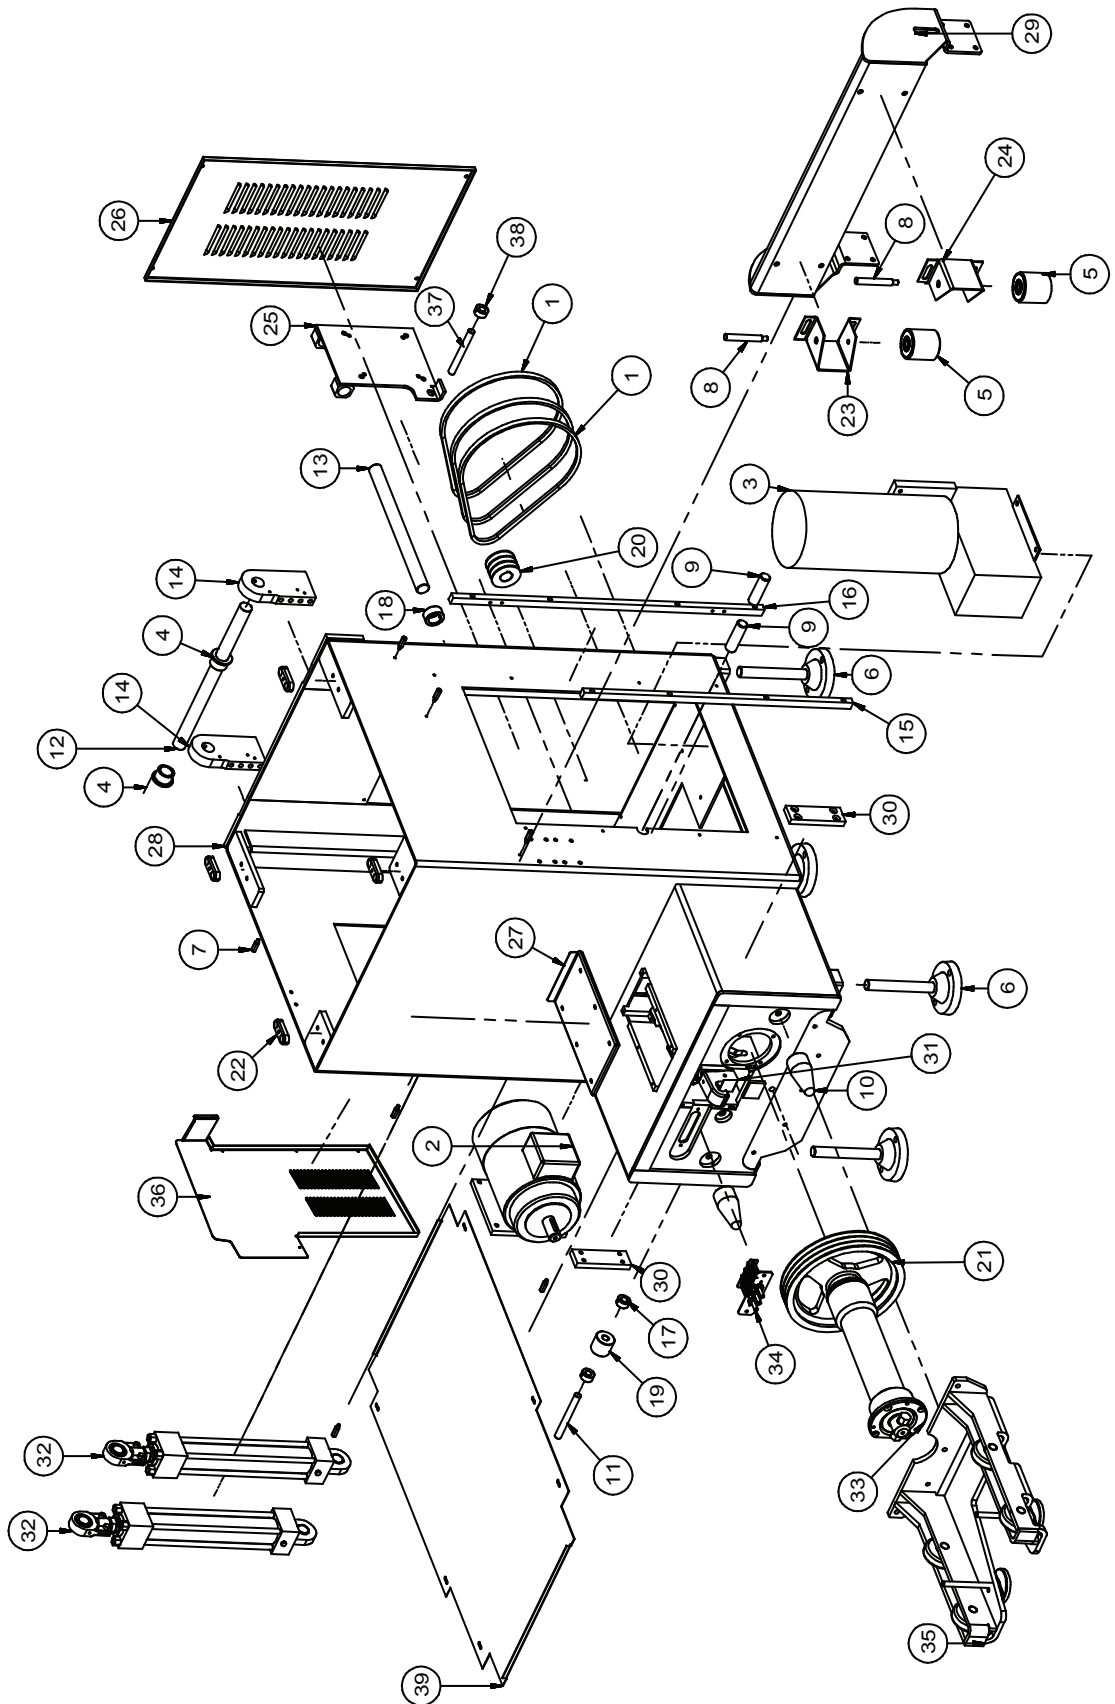

Fig. 14 Bowl drive
The belts (**ref. 1 Fig. 14** on page 49) must be replaced as soon as they show signs of wear or damage to the rubber of which they are made.
- 3) Slacken off the bolt (**ref. 37 Fig. 14**) tensioning the motor base (**ref. 25 Fig. 14**).
- 4) Turn the nut (**ref. 38 Fig. 14**) until the worn belts can be extracted (**ref. 1 Fig. 14**).
- 6) Turn the nut (**ref. 38 Fig. 14**) in the opposite direction to that of point 3) until the belts are correctly tensioned, see “**7.4.1.3 Tension of belts**” on **page 51**.
- 7) Tighten down the bolt (**ref. 37 Fig. 14**);